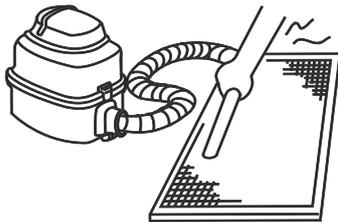

Fig.5-13
- a. The air-in side should face up when using vacuum cleaner. (Refer to Fig.5-13)